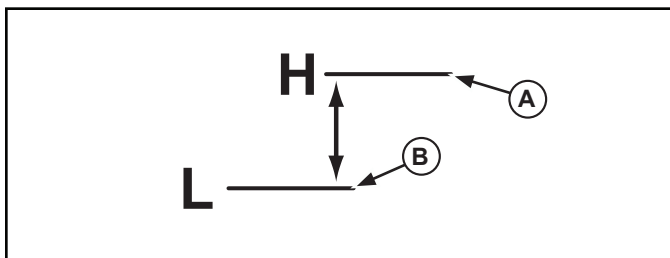

Figure 3. Water Level Marks.
- Remove food pans and fill the well with clean fresh water, until water level is between the "L" low (B) and "H" high (A) marks. See Figure 3. Do not overfill. Always maintain water in well.